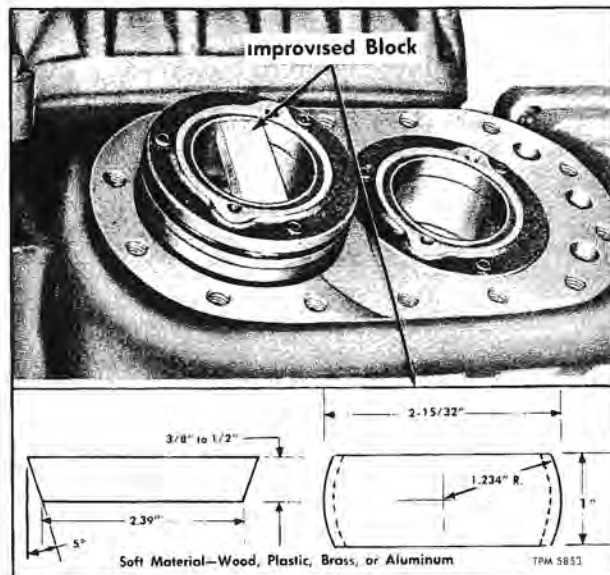

Figure 69—Using Improvised Block To Remove Suction Valve and Liner
1. The suction valve plate (45) is tapered inward at the top. A block of wood, plastic, or soft metal should be improvised to dimensions shown in figure 69 to fit into this taper.
2. Rotate the crankshaft until piston head is down about 2 inches from top, then place the block into cylinder. Rotate crankshaft to cause piston (44) to press block and cylinder liner (48) from compressor bore (fig. 69). CAUTION: Do not bump piston against block, use an even pressure.
3. To remove liner only, make sure liner is forced out beyond the O-ring seal (33), then withdraw liner by hand. If liner is equipped with unloader, the unloader unit will come out with liner. Support the piston through the liner so that piston